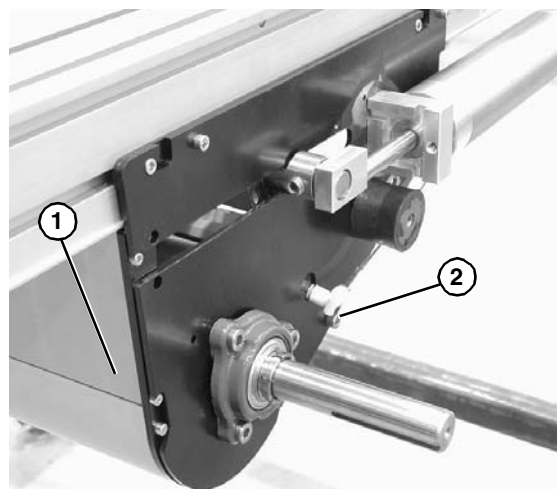
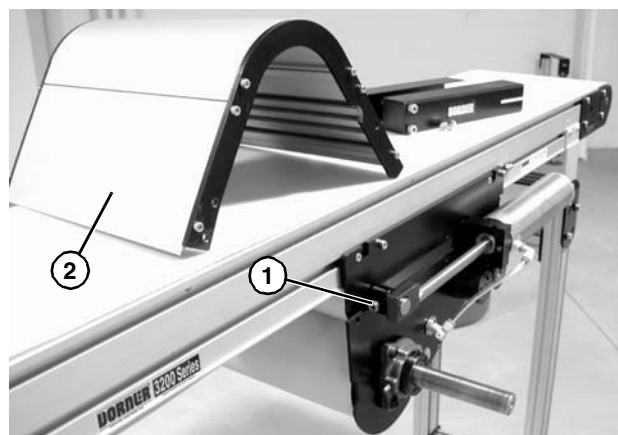

Figure 23
Figure 24
6. Temporarily support the tensioning roller guard (**Figure 23, item 1**). Remove screws (**Figure 23, item 2**) on both sides of center drive and remove tensioning roller guard (**Figure 23, item 1**) and (**Figure 24, item 2**).
7. Loosen tensioning roller set screws (**Figure 24, item 1**).